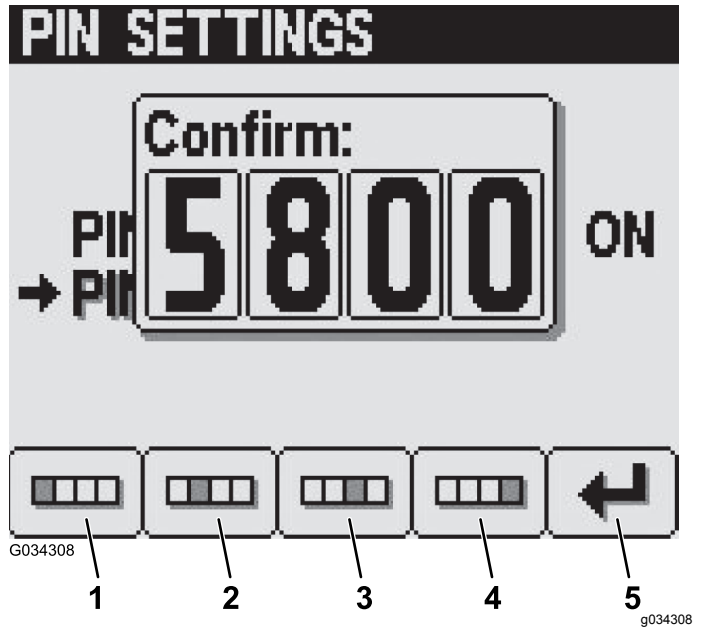

Figure 35
6. In the Confirm screen, enter your new PIN using buttons 1 to 4, and press button 5 to enter the PIN into the InfoCenter (Figure 35).